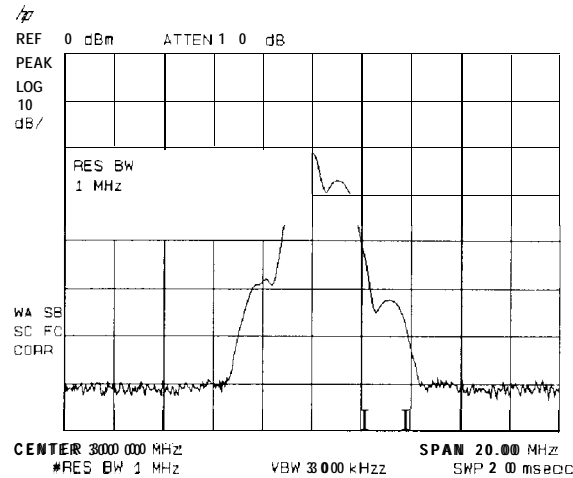

Figure 3-26. Viewing an AM Signal
2. First, center and zoom in on the signal in the frequency domain (see “Decreasing the Frequency Span Using the Marker Track Function”). Be sure to turn off the marker track function, since the marker track function must be off for zero span. See Figure 3-26.